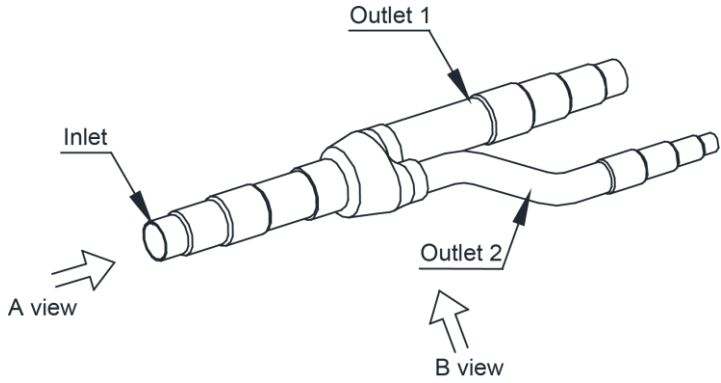

Fig. 25
(1) Y-type manifold, See the Fig. 25. T-type manifold, See the Fig.26